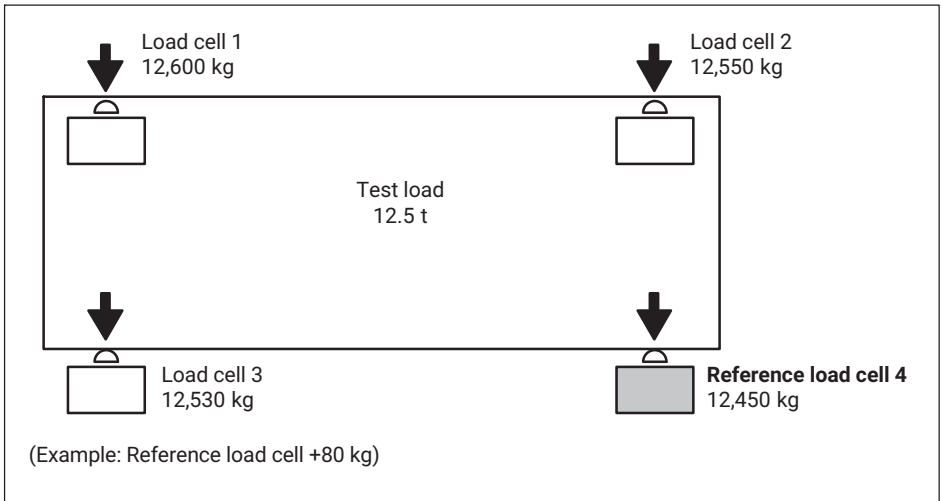

Fig. 10.1 Example: Platform weighing machine with four load cells with 12.5 t test load
- When the four corners of the platform are loaded, note the scale signals in order to assess the respective differences (in kg) to the corner of the scale (load cell) with the lowest indication. This load cell is the reference load cell (4) and does not need balancing (in the example in *Fig. 10.1*, load cell 4).